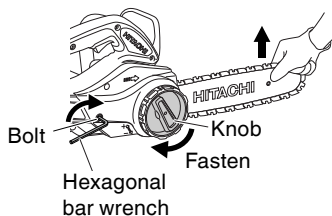

Fig. 12
7. Securing the knob (Fig. 12)
- ① When adjustment is complete, lift up the guide bar, and fully tighten the knob.
- ② Make sure the bolt is firmly tightened.